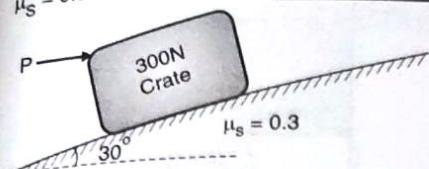

Fig. Q. 8
- Q. 8** Determine the horizontal force P needed to just start moving the 300 N crate up the plane. Take $\mu_s = 0.3$. Refer Fig. Q. 8. **SPPU : Dec 15, 5 Marks**